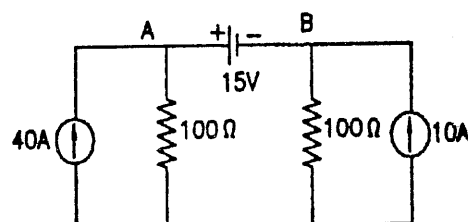

FIG. 1.189 : REFERENCE FIGURE FOR PROBLEM NO. 12
12. Using superposition theorem, calculate the current I_{AB} in the network of Fig. 1.189. [14.5]